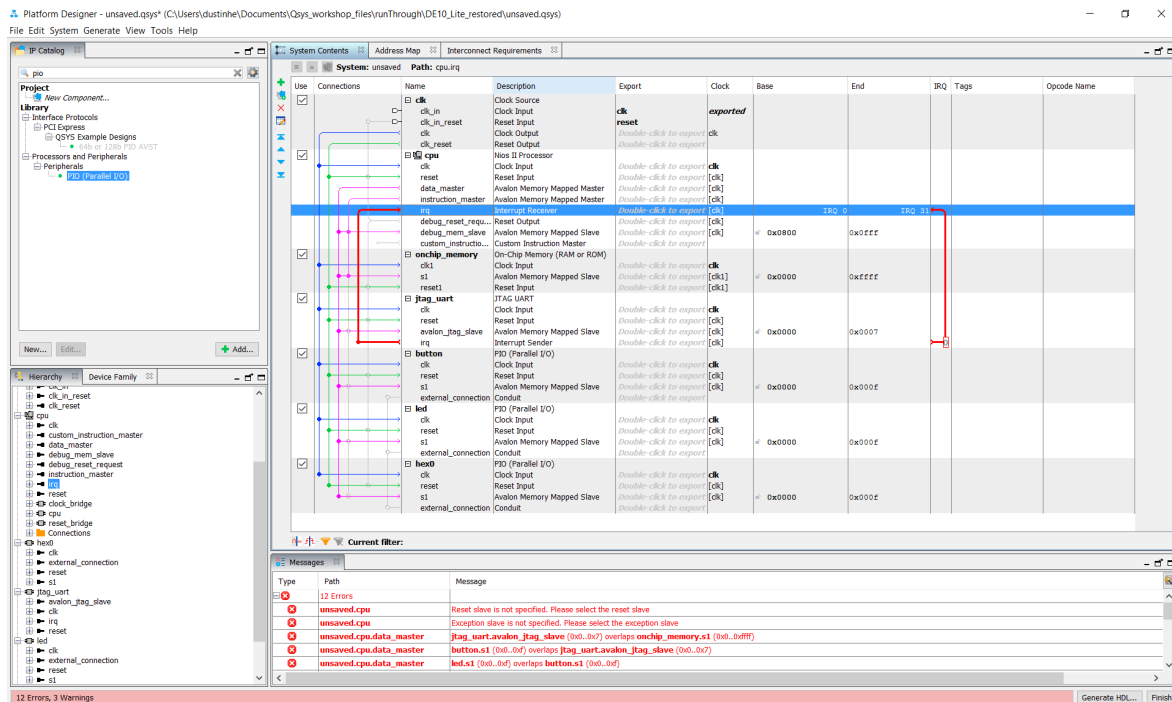

Figure 23: System Contents After Interrupt Connections
- ☐ The next connections to make are the processor interrupt request (IRQ) signals. Make this connection as shown in Figure 23 by clicking on the empty bubble. We will use the default setting for the IRQ number.